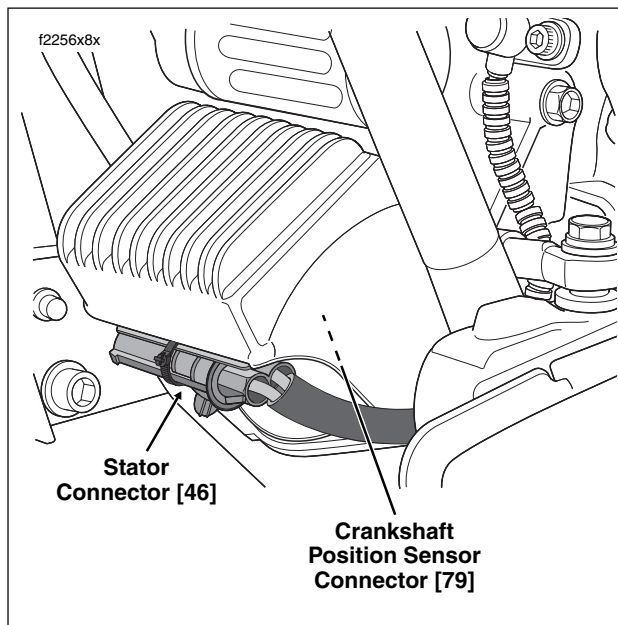

Figure 9-5. Voltage Regulator (Left Side View)
2. Locate crankshaft position sensor connector [79], 2-place Mini-Deutsch, fixed to bracket at bottom of voltage regulator. See Figure 9-5.
- Mate pin and socket halves of crankshaft position sensor connector [79]. See Figure 9-5.